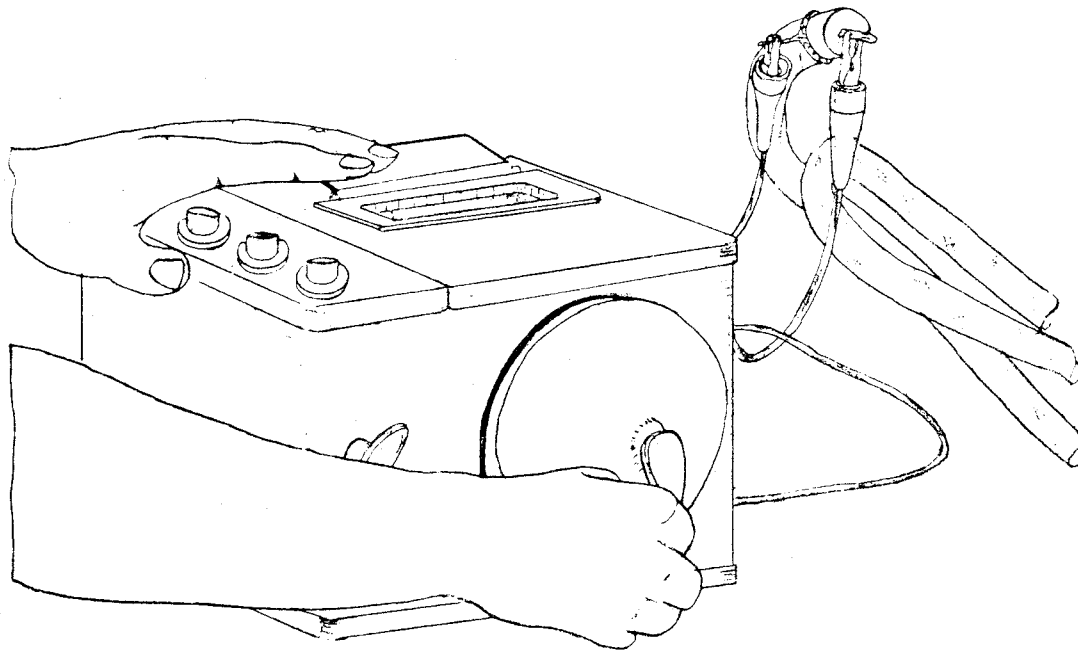

Figure 11-97. Testing Pyrotenax Cable for Insulation Resistance with a "Megger"
a. MEASURING INSULATION RESISTANCE.—The most important single fact about the use of Pyrotenax is that it must be kept dry. Moisture in the magnesium oxide may be detected by measuring the insulation resistance between the inner and outer conductors. This measurement is best made by use of a megohm meter with a 500- or 1000- volt generator. See Figure 11-97.